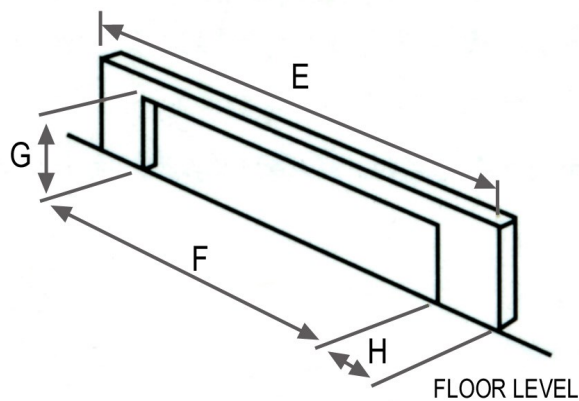

Fig 2 – Mounting Slot
1. Cut a hole in the plinth board, to the dimensions given in Figure 2.
These dimensions are for a 500mm (PHSL2) and 600mm (PHSL3) wide by 100mm (min) high plinth. If the appliance is to be fitted into a plinth greater in length than specified then the hole shown in Figure 2 must be cut at least 22mm from one end.